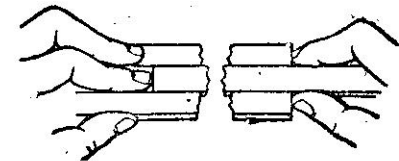

Fig. 8
If the approximate number of four digits such as 1358 is requested, the fourth significant figure 8 is determined by inspection taking approximately 80% of the space between 135 and 136. This inspection method is always applied to reading of an ordinary scale.
- (1) Push one end of the slide with fore finger (thumb is used for holding slide rule) and thumb and middle fingers are slid along outside edges of the stock.
- (2) At the same time another thumb and fore finger are put on one end of the stock and hold it lightly. (Fig. 8)
- (3) When the position of the slide comes closely to the point, the slide is slightly moved by spring action of tip of fingers squeezing the slide by both fingers which are putting on the end of the stock.
- (4) It is always necessary that finger tip which pushed the end of slide never be left hold of the slide rule all the time.
- (5) Repeat this operating practice from right and left direction alternatively.